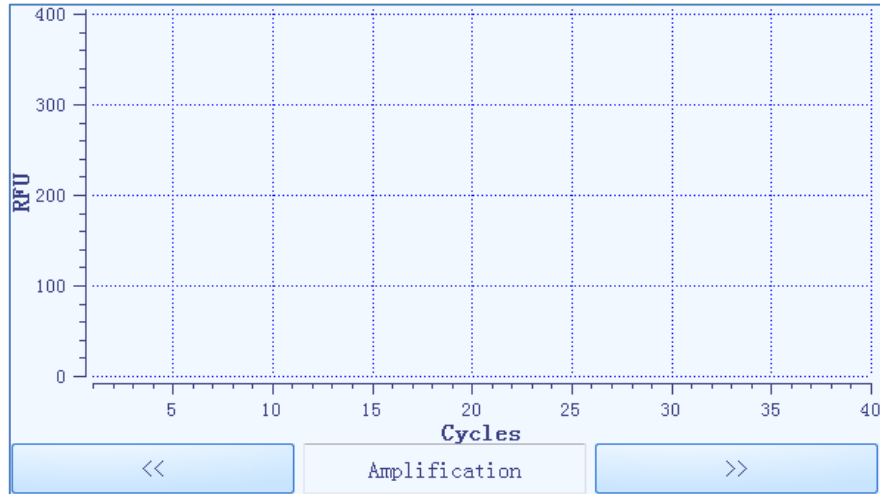

Figure E-4.1. Run Monitoring Diagram - Real-time Amplification Curve
- ▶ If user select the **Fluorescence** option in the run monitoring option bar, user can press  or  keys below the run monitoring diagram to choose the monitor content, which can be the real-time **Amplification** curve, **Melting** curve or fluorescence **Heat Map** of the current experiment, as shown in figure E-4.1.
- a. The run monitoring diagram will display the real-time **Amplification** curve of the current experiment by default, as shown in figure E-4.1.